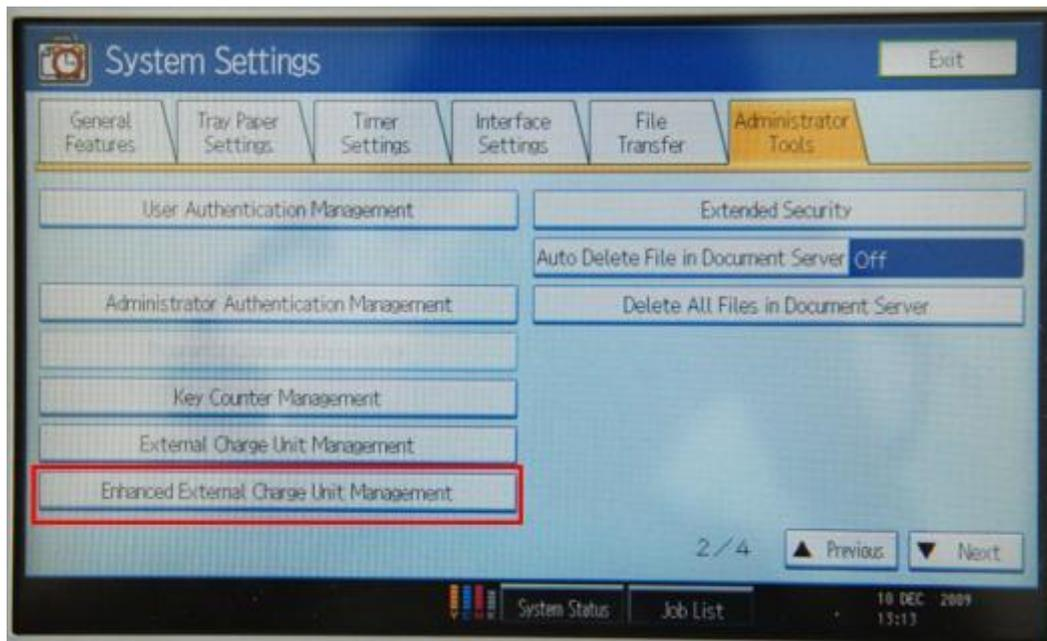

Figure 5: Accessing Enhanced External Charge Unit Management.
3. Select the **Enhanced External Charge Unit Management** button. It is usually on the bottom left or top right of the second page (see Figure 5), although location may vary slightly between MFDs. If this button is disabled see section 2.2.6.